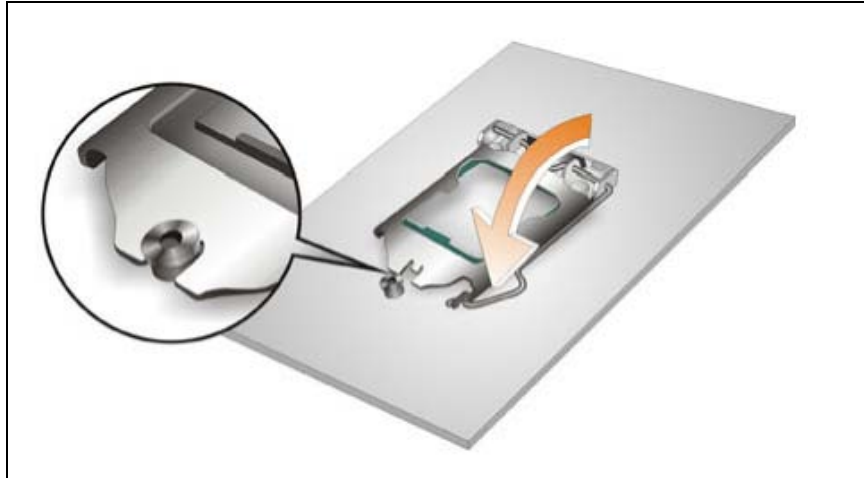

Figure 4-4: Close the Socket LGA1150
- Step 8: Close the CPU socket.** Close the load plate and pull the load back a little to have the load plate be able to secure to the knob. Engage the load lever by pushing it back to its original position. See **Figure 4-4**. There will be some resistance, but will not require extreme pressure.